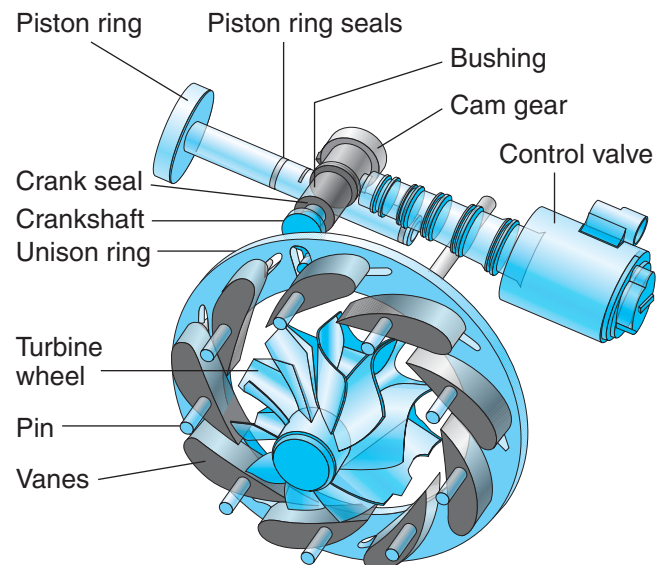

Figure 9-6 Component operation of a VN turbocharger. (Courtesy of Caterpillar)
Variable Nozzle Turbocharger. **Figure 9-5** shows a sectioned view of what Caterpillar call a **variable nozzle (VN)** turbo. This type of variable volute technology has become popular with OEM post-2007 engines. Identify the turbine, pin wheel, vanes, and unison ring by cross-referencing this figure with **Figure 9-6**.